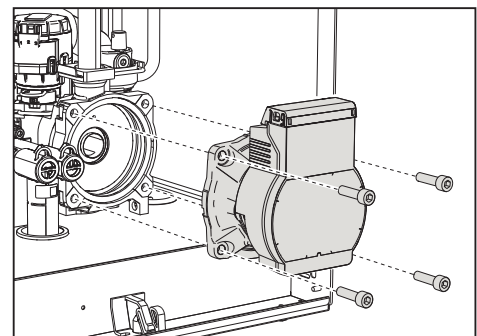

fig. 41
- Unscrew (4 x 5mm Allen key bolts) and remove the circulating pump motor assembly of fig. 41 .